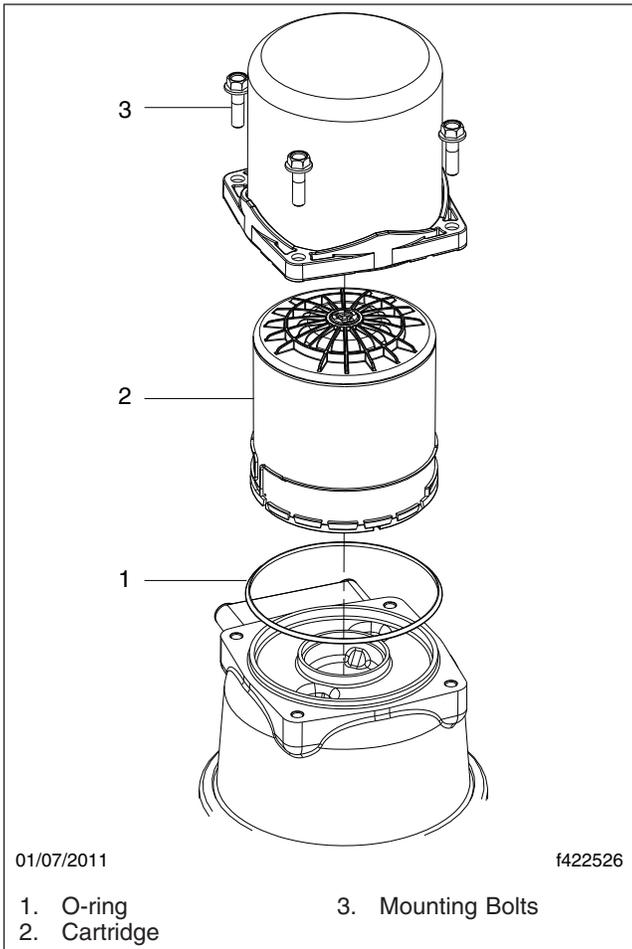

Fig. 1, PURest Air Dryer Assembly
- Remove the four mounting bolts and discard. See Fig. 1. Lift the canister about 1/2 inch and remove.